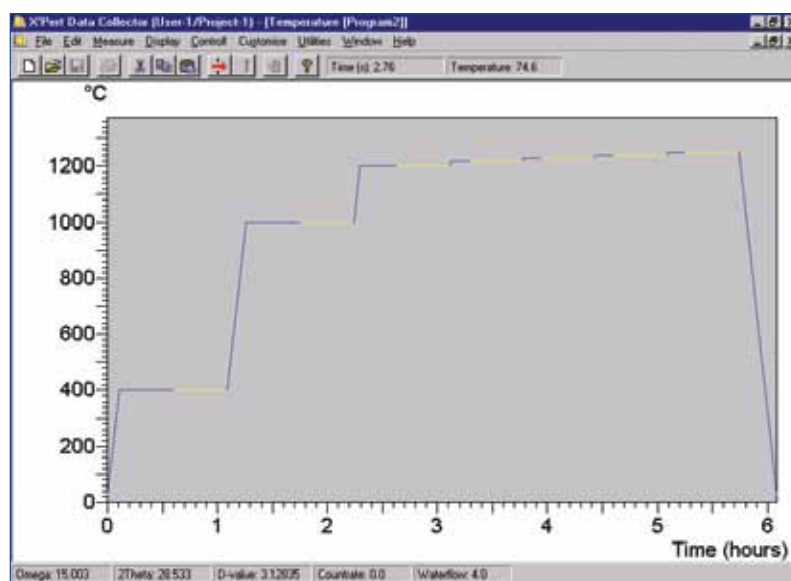

Figure 39. Graphic display of the non-ambient program steps.
4. Press the 'Profile' button to display a schematic of the non-ambient program steps that have been input into the program (Figure 39).